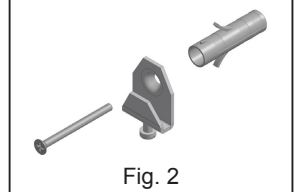

Fig. 2
- a) 2 levelling hooks that fasten on with the supplied expansion plugs (Fig. 2)
- 7) Hang the hood on the fixing system (fig. 2 and 3) and level it using the adjustment screws (fig.2).